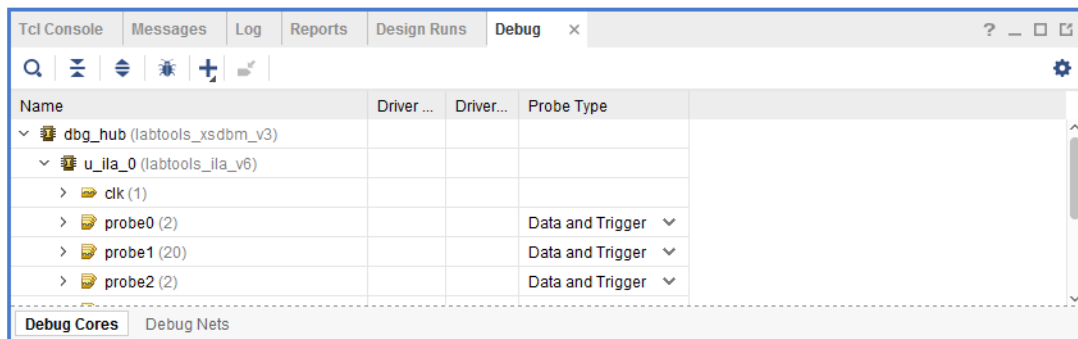

Figure 10-4: Assigned Debug Nets
10. The debug nets are now assigned to the ILA debug core, as shown in Figure 10-4.